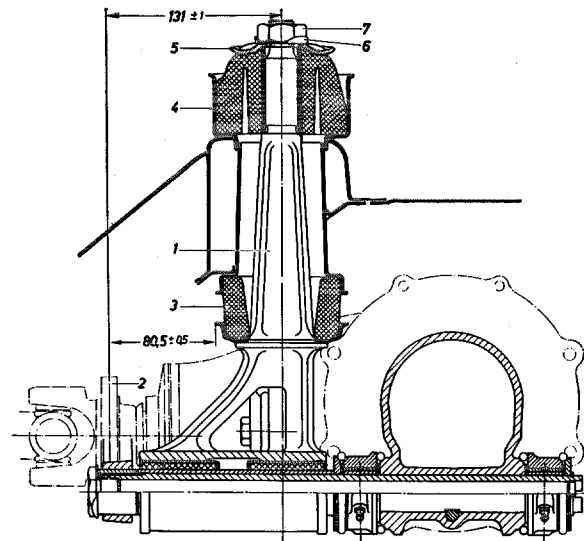

Fig. 35 — 1/5
14. Use Gage 180 589 04 23 to adjust the distance between the surface of the universal joint flange (2) and the front edge of the cup which is welded to the support for the rear axle suspension (Fig. 35 — 1/5 and Fig. 35 — 1/6).
Note: The distance between the surface of the joint flange and the axis of the support for the rear axle suspension should be 131 ± 1 mm (Fig. 35 — 1/5).